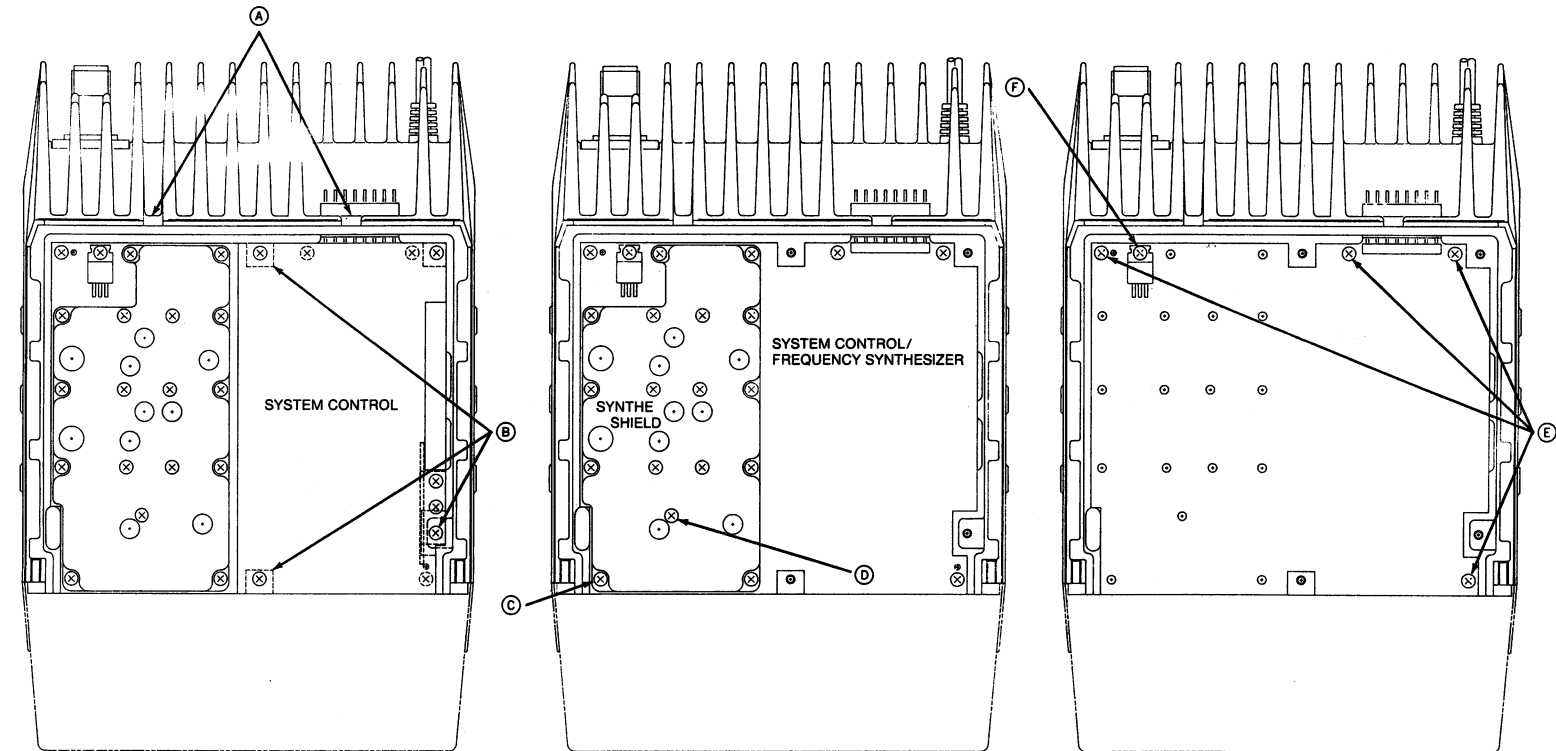

Figure 3 - Disassemble Procedure (Top View)
- 1. Remove the two (2) screws (A) securing the top cover (refer to Figure 3).
- 2. Remove the five (5) screws (B) securing the System Control 2 Board to the frame and carefully lift up and remove the board.
- 1. Remove the screws (A) and (G) securing the top cover and the bottom cover (refer to Figures 3 & 4).
- 2. Disconnect the interconnecting cables and then remove the seven (7) (H) securing the shield to the receiver board. Carefully lift up and remove the board.
- 1. Remove the screws (A) and (G) securing the top and bottom covers (refer to Figures 3 & 4).
- 2. Disconnect the interconnecting cable. Remove the seven (7) screws (I) securing the exciter/PA shield and the antenna shield.
- 3. Remove the two (2) screws (J) connecting the power supply cable to the exciter/PA board and turn the cable stopper mounted on the rear of the frame assembly 90 degrees. Lift up the cable stopper up and remove the power supply cable.
- 4. Remove the two (2) screws (K) securing power module HC1. Remove the screws (L) securing power transistors TR1 and TR2.
- 5. Remove the five (5) screws (M) securing the transmitter board. Carefully lift up and remove the board.